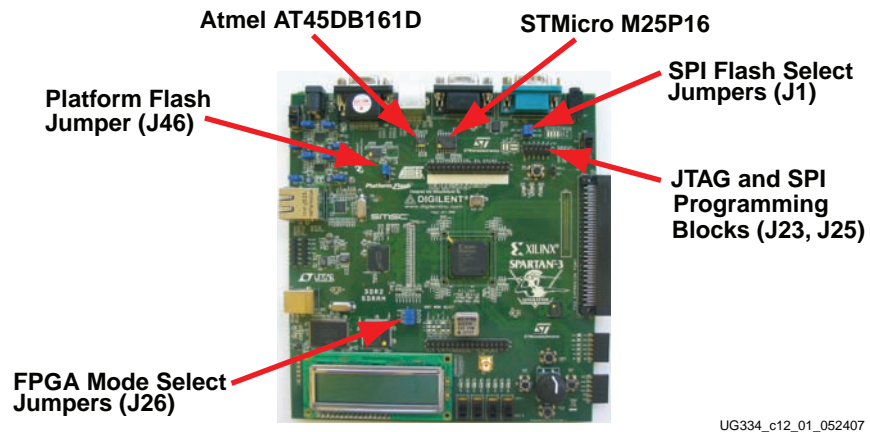
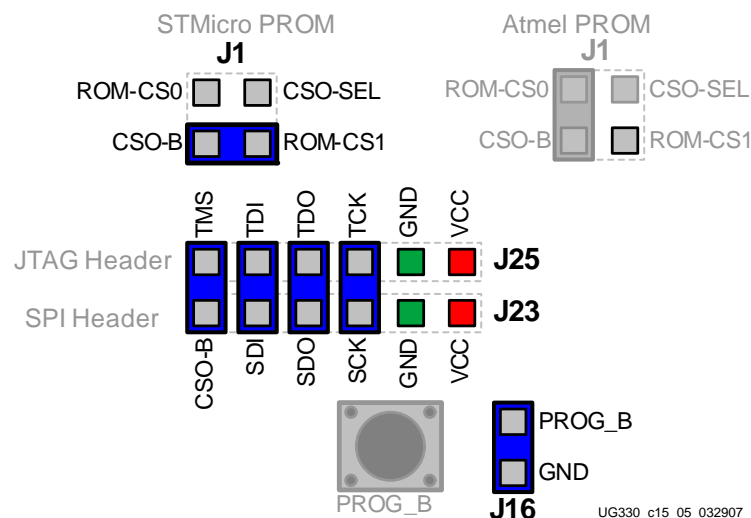

Figure 12-1: SPI Serial Flash PROMs and Associated Jumpers
Figure 12-4: Jumper Settings for Direct SPI Flash Programming
The Spartan[®]-3A/3AN FPGA Starter Kit board includes two different styles of SPI serial Flash, as shown in Figure 12-1. Only one style is available to configure the FPGA. After configuration, however, the FPGA application has full access to both PROMs for data storage or Flash update purposes.
The J1 jumper block, shown in Figure 12-1, defines which SPI Flash PROM is connected to the FPGA for Master SPI mode configuration and which is optionally available via a separate, second SPI slave select signal.
3. Locate the J1, J23, and J25 jumpers in the upper right corner of the board, using Figure 12-1 as a guide. Figure 12-4 also provides a reference diagram.
4. Insert a jumper in jumper block J1, as shown in Figure 12-4. The figure shows the setting to program the STMicro M25P16 PROM. Alternatively, set the jumper to program the Atmel AT45DB161D DataFlash PROM.
5. Insert four jumpers between jumper blocks J25 and J23, as shown in Figure 12-4. These jumpers connect the embedded USB JTAG programmer on the J25 jumper pins to the SPI PROM via the J23 jumper pins.
6. Set the FPGA mode select pins for Master SPI mode using jumper J26, as shown in Table 12-4. The location of the J26 jumper appears in Figure 12-1.
7. Disable the Platform Flash PROM by removing jumper J46, shown in Figure 12-1 and Table 12-4.
8. For direct programming, the FPGA's PROG_B pin must be held Low. Insert a jumper in jumper J16, as shown in Figure 12-4. This holds all the FPGA's I/O in three-state to allow the JTAG programmer full access to the SPI PROM pins.
2. Insert a jumper in jumper block J1, as shown in Figure 12-4. The figure shows the setting to program the STMicro M25P16 PROM. Alternatively, set the jumper to program the Atmel AT45DB161D DataFlash PROM.